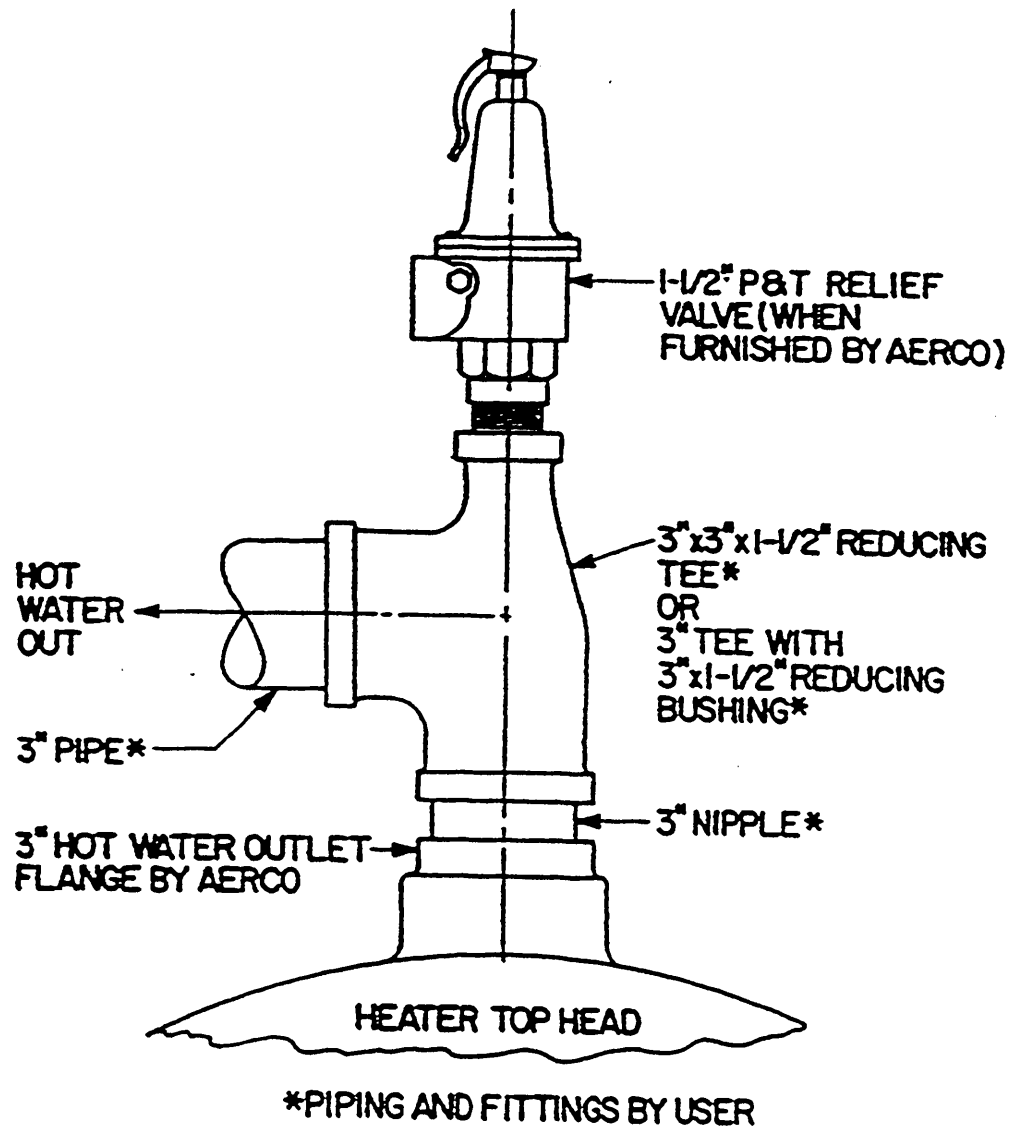

Figure HE-104-6 -- P&T Relief Valve Located in the Heater Hot Water Outlet Piping
Pressure & Temperature Relief Valve(s) -- size and number furnished as required in accordance with the design Btu output of the Heater -- first two located in the Heater Top Head as shown in Figure HE-104-1; third, if furnished, to be installed in the hot water outlet piping by the user as shown in Figure HE-104-6
7. When a third P&T Relief Valve is furnished with the Heater (the first two furnished have been assembled in the top head of the Heater by AERCO), the third Valve is to be installed in the Heater hot water outlet piping, by the user, as illustrated in Figure HE-104-6.